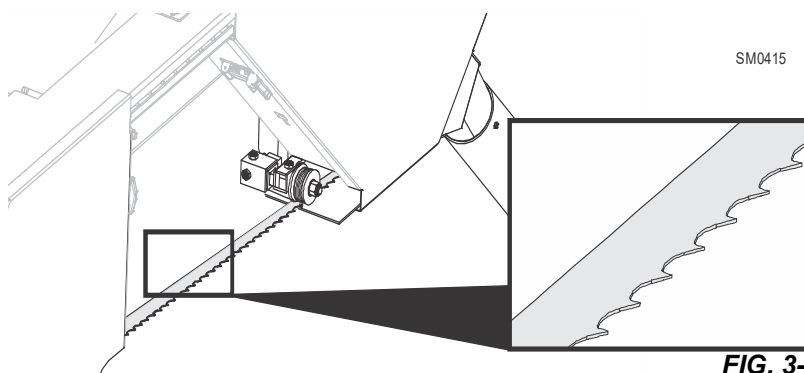

FIG. 3-2
4. Make sure the teeth are pointing the correct direction. See FIG. 3-2.